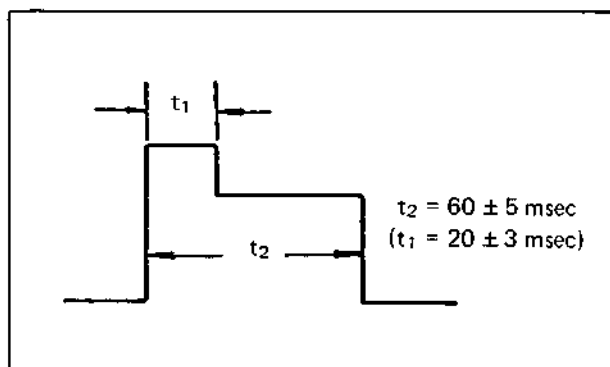

Fig. 5-11 Slow pulse
- Connect the oscilloscope to TP-16 (CAP. MOTOR IN) and adjust R114 (SLOW PULSE) so that $\textcircled{t_2}$ become $60 \mu\text{sec}$ shown in Fig. 5-11.